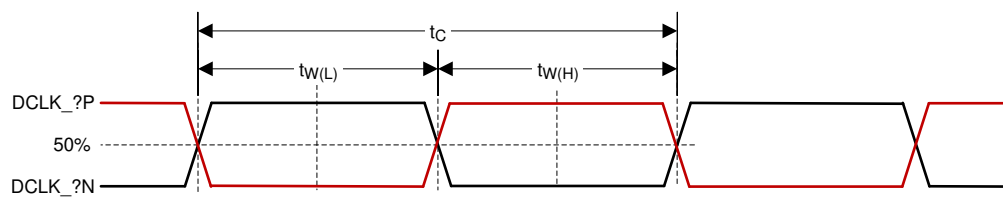

Figure 6-12. HSSI CLK Characteristics
(7) See Figure 6-12 for pulse duration high and low for HSSI.